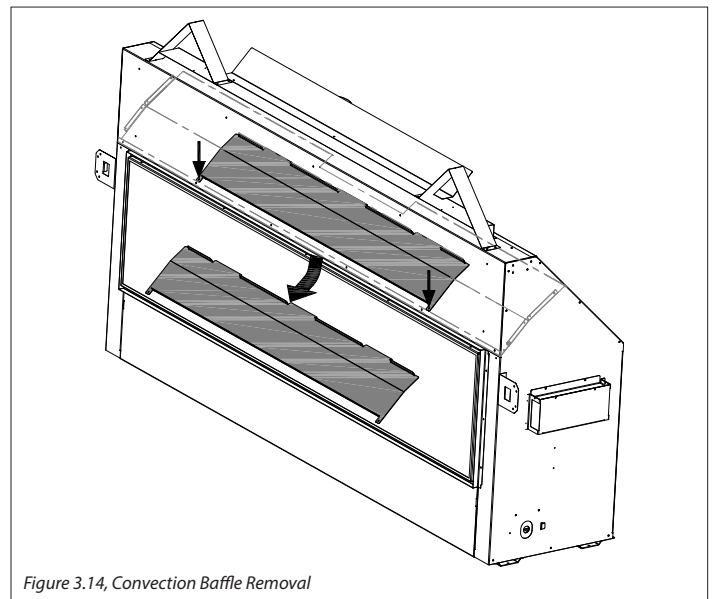

Figure 3.14, Convection Baffle Removal
4. Remove the convection baffle from the appliance. The baffle is secured by (2) screws right behind the upper edge of the fireplace opening. See Figure 3.14. Recycle this panel if it is no longer needed.